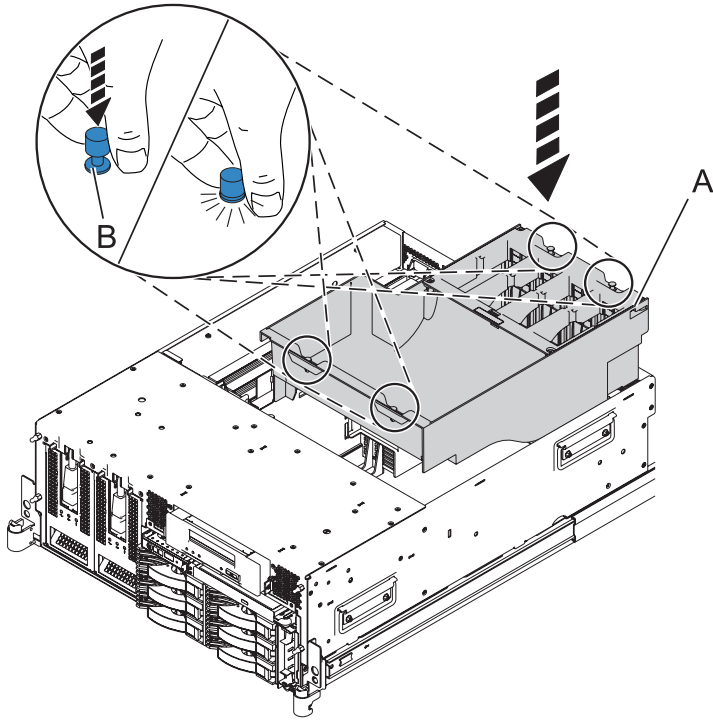

Figure 20. Installing the airflow cover in the 8203-E4A, 9407-M15, or 9408-M25 system
- 1) To install the airflow cover, check that the four retaining tabs (A) are in open position, place the airflow cover (A) into its location, aligning the blue tabs with the holes. Push firmly on the cover to position it, and push the four locking tabs down to secure the cover, as shown in Figure 20 on page 26.